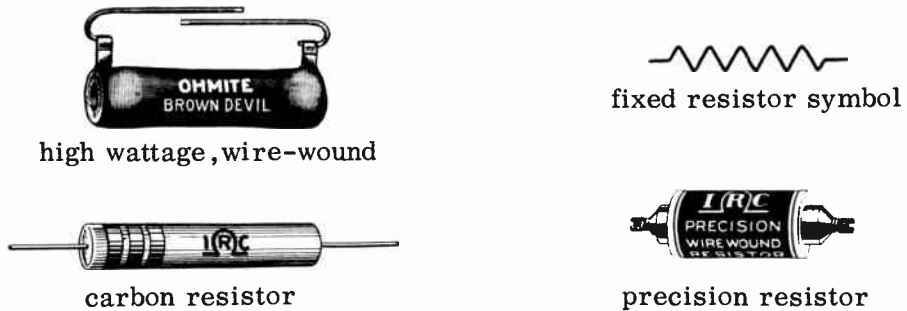

FIG. 1-4. FIXED RESISTORS.
**RESISTORS.** The resistor is a common radio part. Each resistor has a specific amount of resistance. Resistors which are made of mixtures of carbon and clay are called **CARBON RESISTORS.** Carbon resistors are used in low power circuits. **WIRE WOUND RESISTORS,** which contain special resistance wire, are used in high power circuits. Fig. 1-4 illustrates several types of fixed resistors which are used in radio circuits. The symbol which is used to represent them in circuit diagrams is also shown.